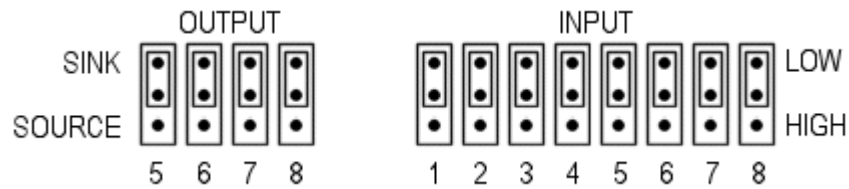

Figure 6-2: I/O Jumpers – Factory Pre-set
4. Change the jumper settings. Refer to the diagram in Figure 6-2.